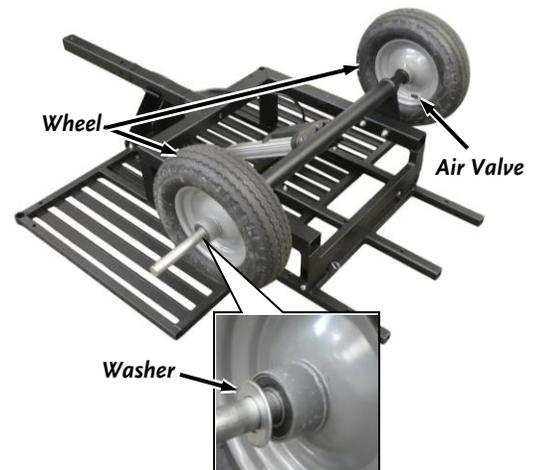

Figure 9
3. Slide a Wheel onto each end of the Axle with the Valve Stems facing in (Figure 9).